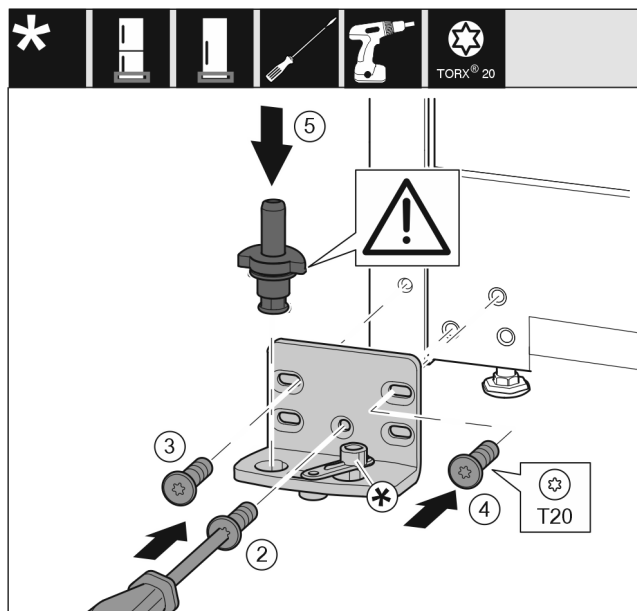

Fig. 13
- Place the bearing bracket on the other side and screw it in using the T20 screwdriver. Start with screw 2 at the bottom in the middle. Fig. 13 (2)
- Screw in screws 3 and 4. Fig. 13 (3,4)
- Insert the bearing pin completely. Make sure that the latching lug is pointing to the rear. Fig. 13 (5)